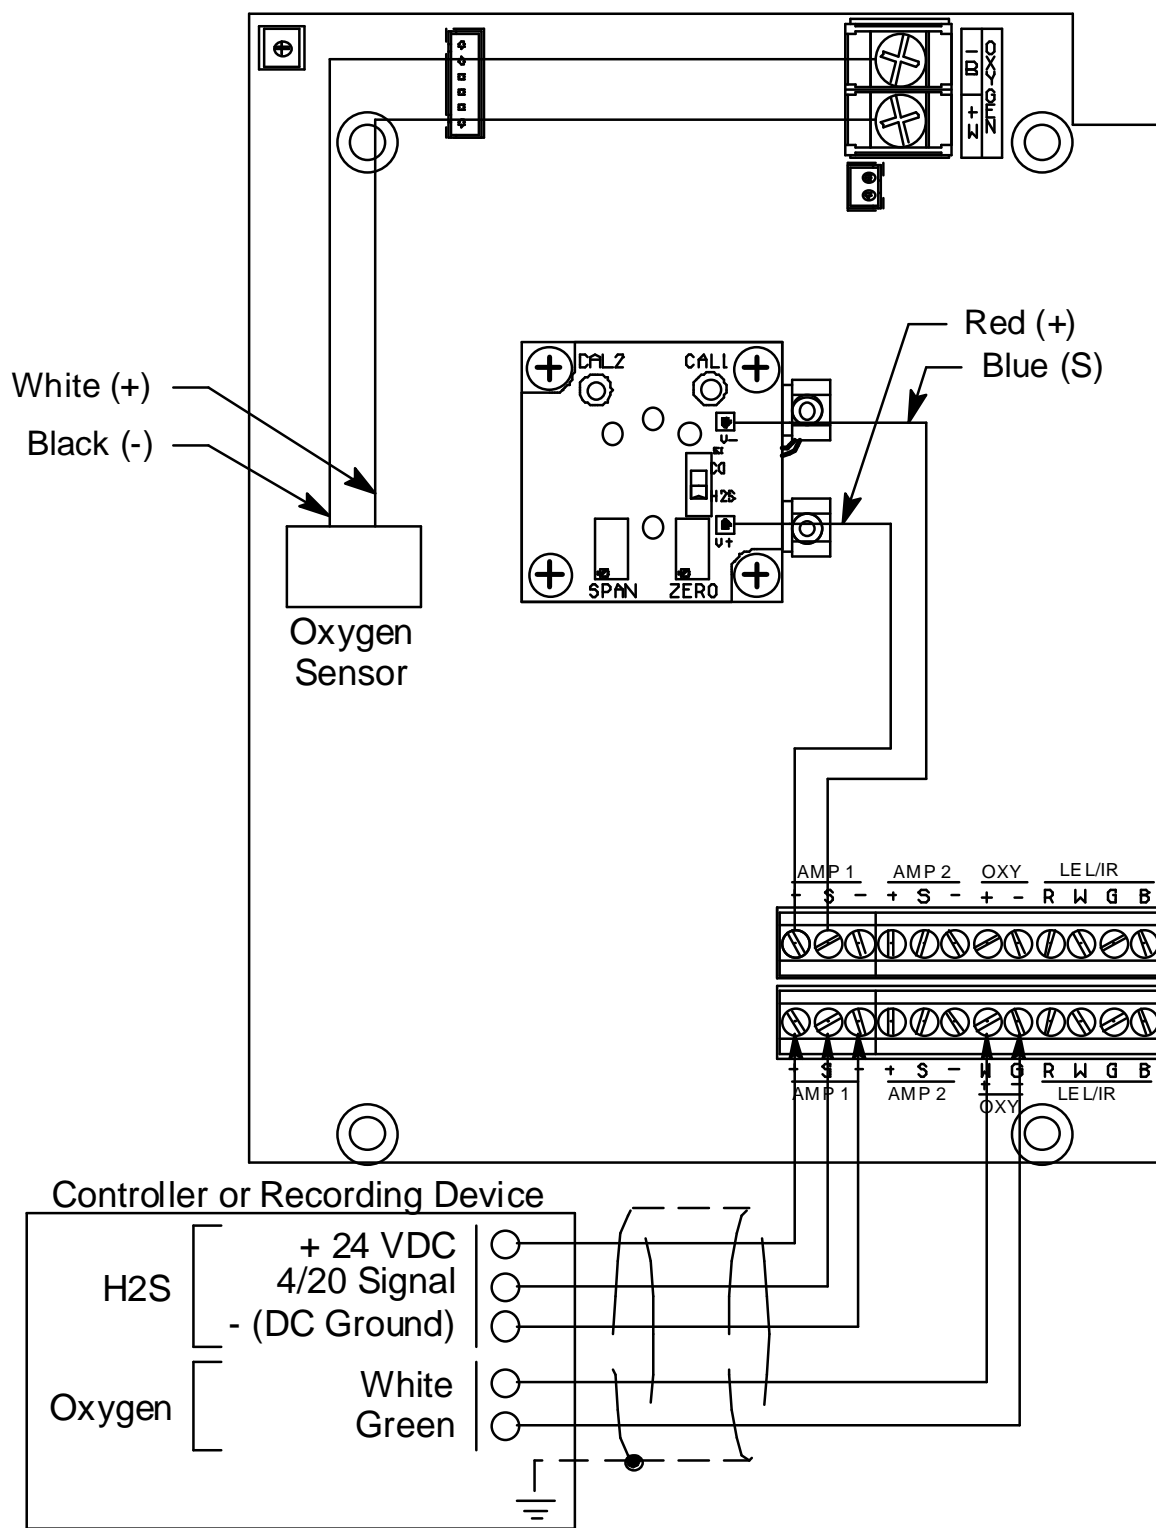

Figure 5: Wiring the Sample-Draw Detector to a Controller
5. Connect the cable to the sample-draw detector’s interconnect terminal strip as shown in Figure 5.
8. Connect the wires to the applicable detector/transmitter terminal strip at the controller as shown in Figure 5. Refer to the controller operator's manual and the controller detector head specification sheet for the 35-3001-09 for detector/terminal strip connections specific to the controller.